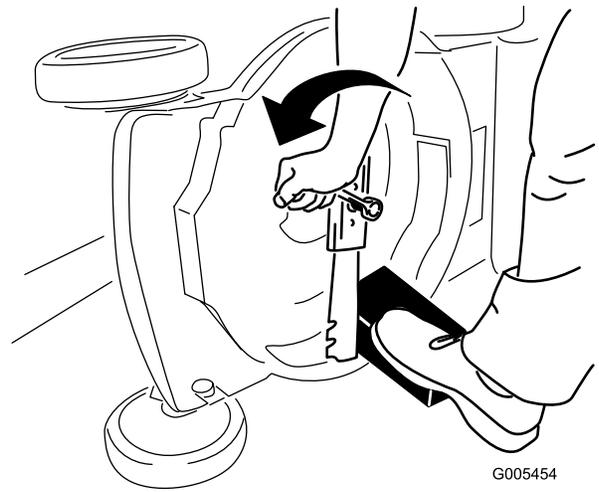

Figure 50
4. Remove the blade, saving all mounting hardware (Figure 50).
3. Use a block of wood to hold the blade steady (Figure 50).